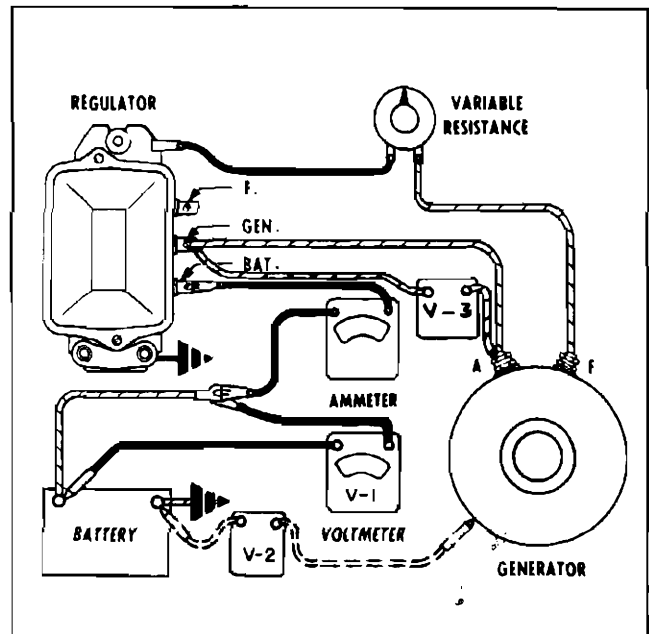

Fig. 11-24 Testing Charging Circuit Voltage Drop
3. Measure voltage drop at V-1, V-2, and V-3. Return rheostat knob to "OPEN" position immediately after taking readings. See Figure 11-24. Readings V-1 and V-3 should not exceed 0.3 volt each. Reading V-2 should not exceed 0.1 volt.